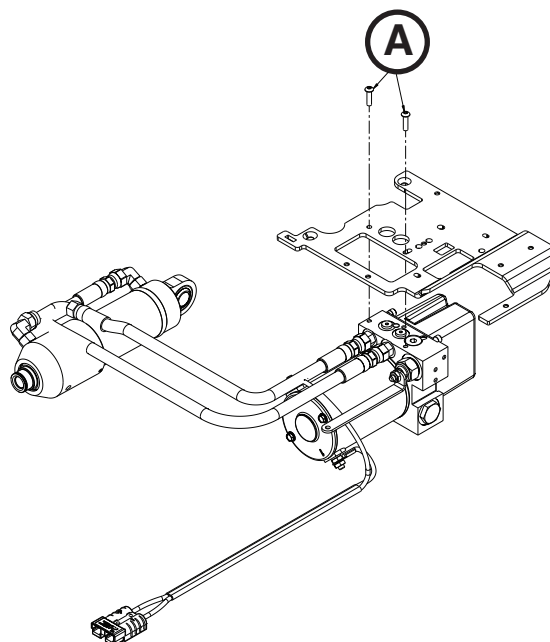

Figure 89
4. Using a T25 Torx driver, loosen (do not remove) the two screws (A) that secure the manifold fitting to the left wing plate (Figure 89).